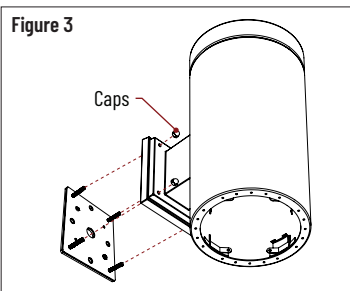

Figure 4
5. Connect ideal connector from LED driver to PRISM reflector. (Figure 4)